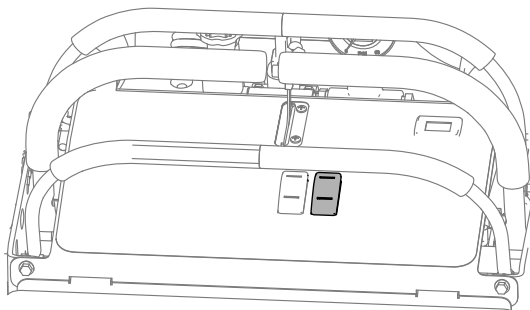

Figure 20
2. Turn the sprayer pump on (Figure 20).
2. Switch the sprayer pump on (Figure 20).